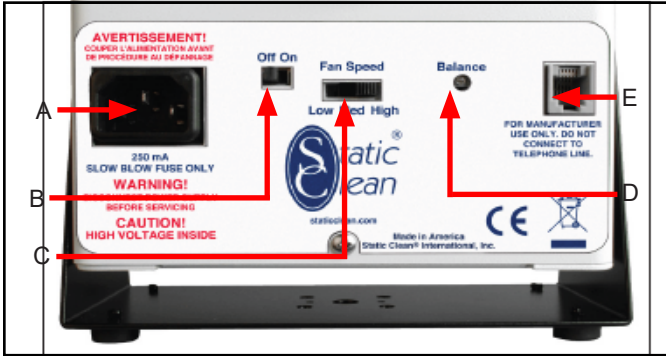

Figure 2. Sentinel II Benchtop Ionizer features and components
1. Set the fan speed switch on the rear of the unit to the Low, Medium, or High position (see Figure 2). Higher airflow will result in faster neutralization rates.
The High Output Benchtop Ionizer is an auto-balancing unit. However, tuning or manual adjustment can be accomplished by inserting a small screwdriver or trimmer adjustment tool into the balance adjustment hole located at the rear of the unit (see Figure 2). To increase the output in a positive direction, turn the potentiometer clockwise. To increase the output in a negative direction, turn the potentiometer counter-clockwise.